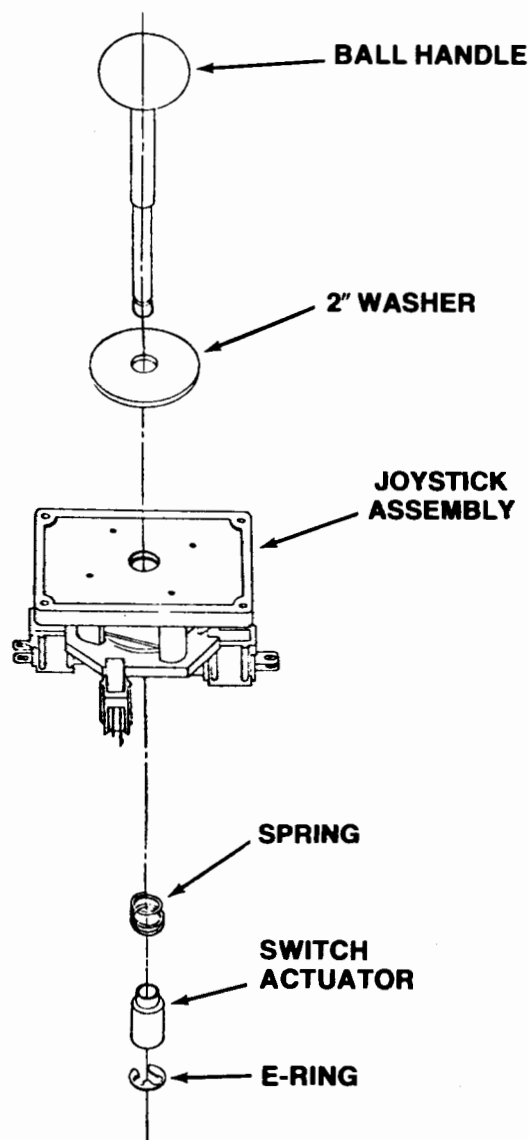

FIGURE 1
1. Refer to FIG. 1 before starting installation.
1. With Joystick in position as shown in Figure 1, press down on blades and lift up on solder tabs to raise switch body above locking tab.